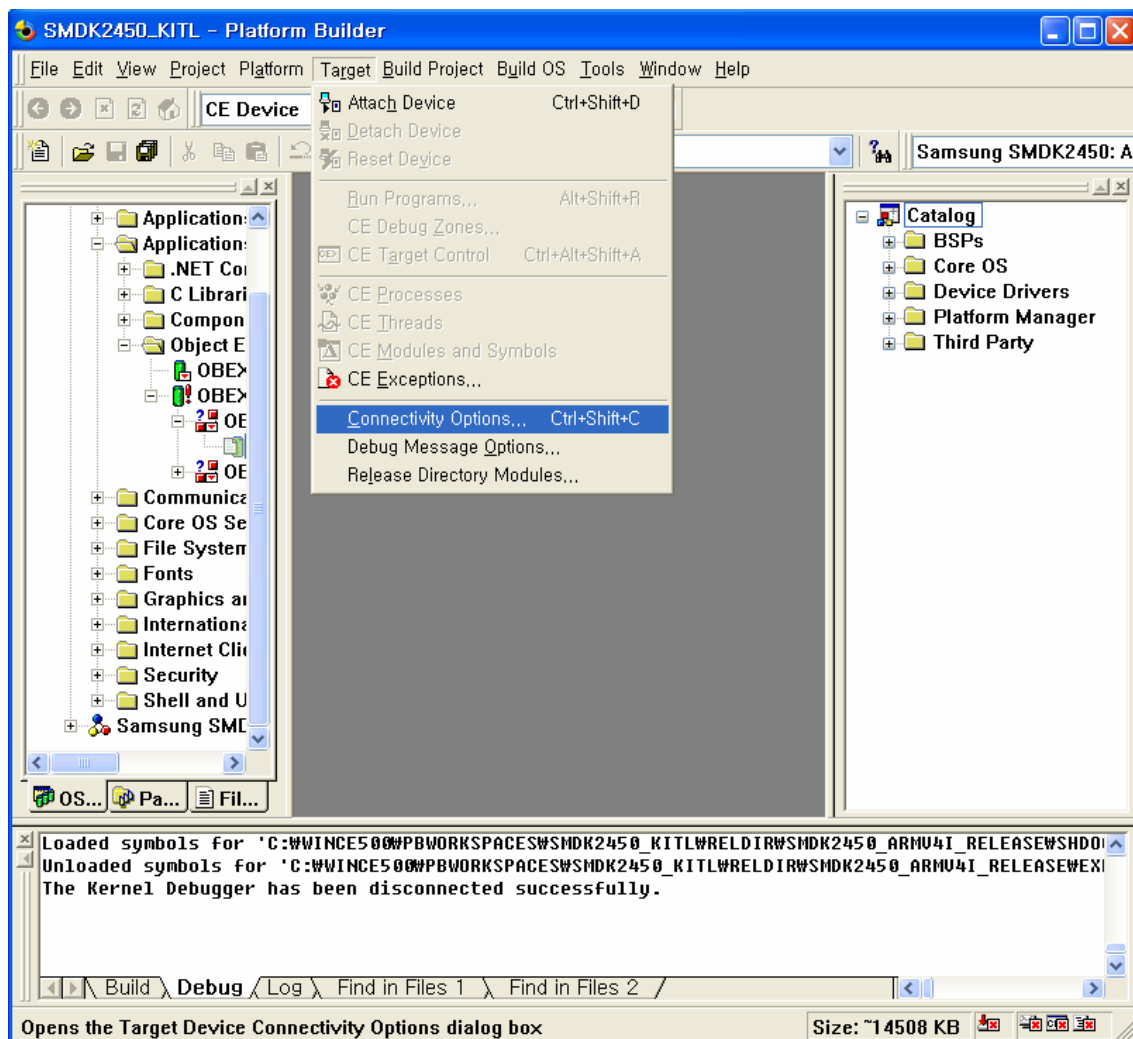

Figure 5-38 Selecting Connectivity Options
4. On the Target menu in the Platform Builder window, click **Connectivity Options...** as shown below. Target Device Connectivity Options window appears on your screen. Select None from Download drop down menu box and USB from Transport drop down menu box as shown in figure 5-38.